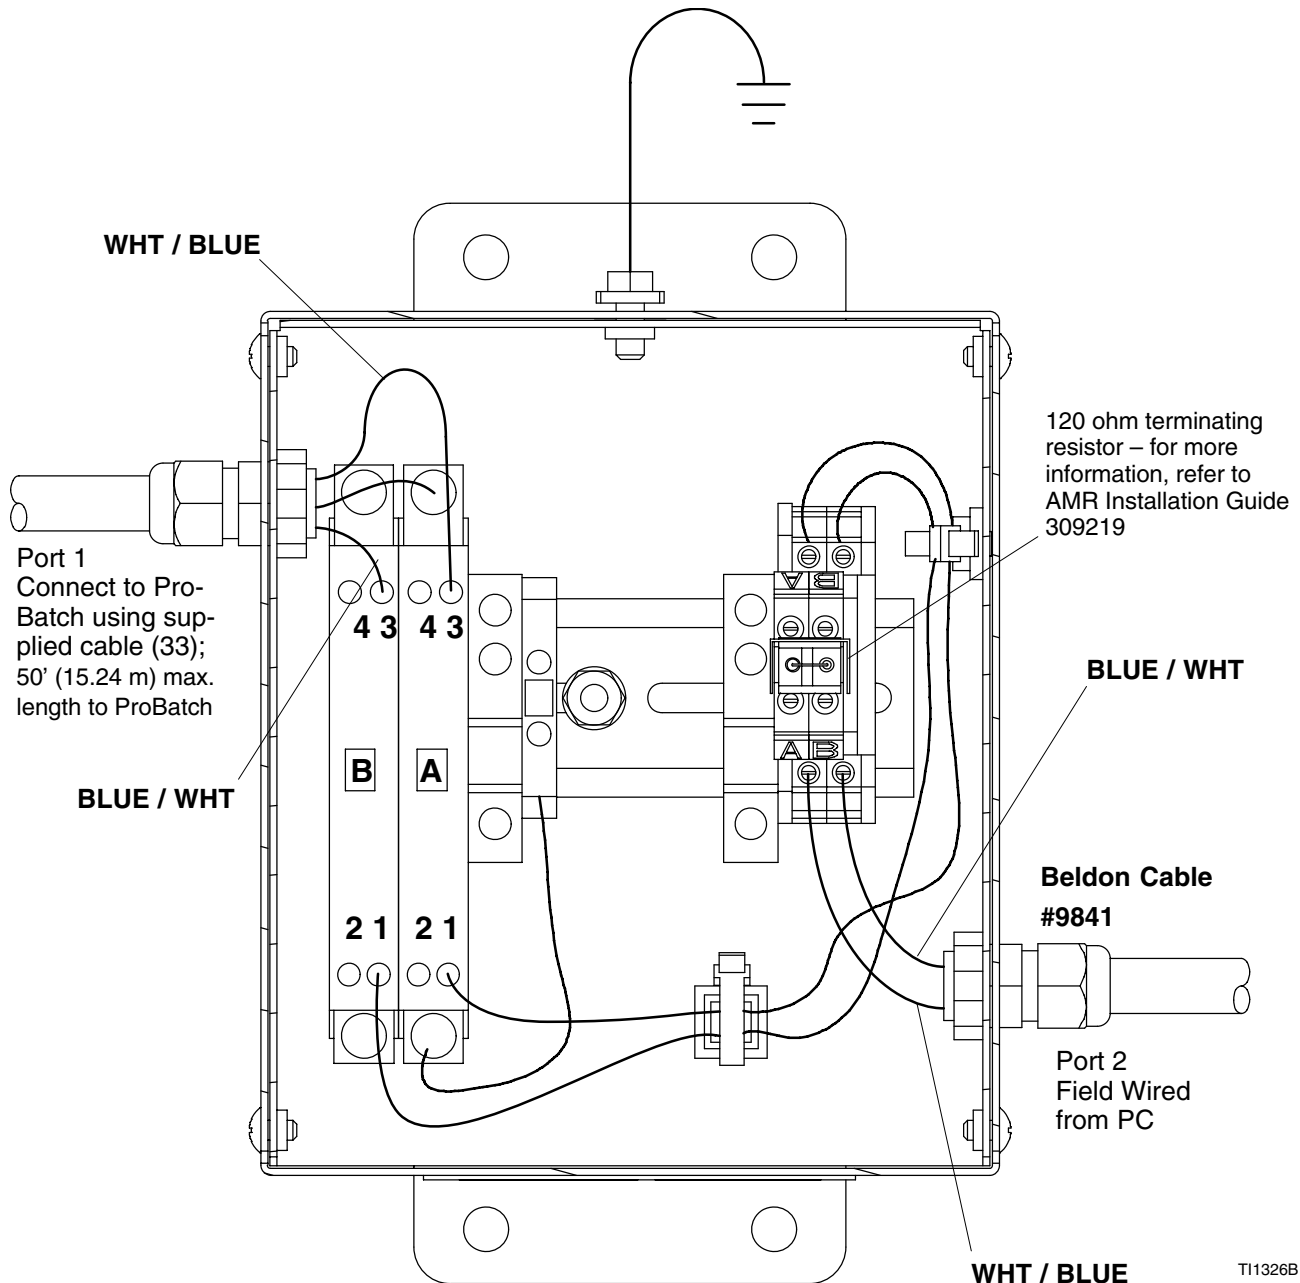

Fig. 3
5. Measure the resistance between the network interface ground lug (C) and true earth ground. The resistance should be less than 1 ohm.
8. Install cables and make wire connections as shown in Figure 3.